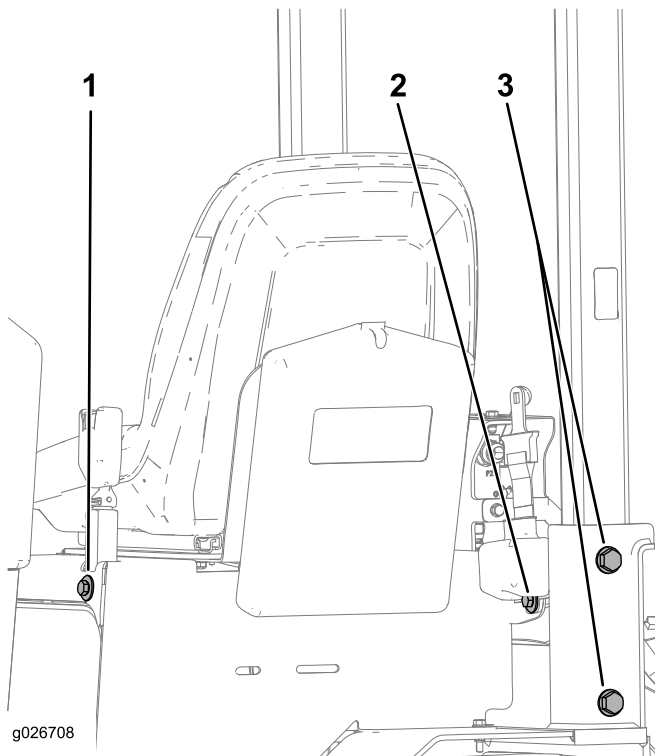

Figure 43
1. Check that the 4 bolts that secure the ROPS bar to the chassis of the machine are torqued to 203 to 223 N-m (150 to 165 ft-lb); refer to Figure 43.
2. Check that the bolts and nuts that attach the seat-belt retractor and buckle to the seat are torqued to 104 to 115 N-m (77 to 85 ft-lb); refer to Figure 43.